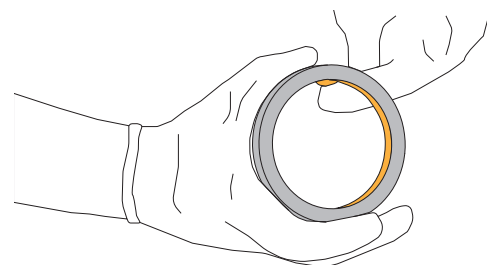

Figure 15
3. Smear multi-purpose grease to the inside of the new output shaft seal [Figure 15].